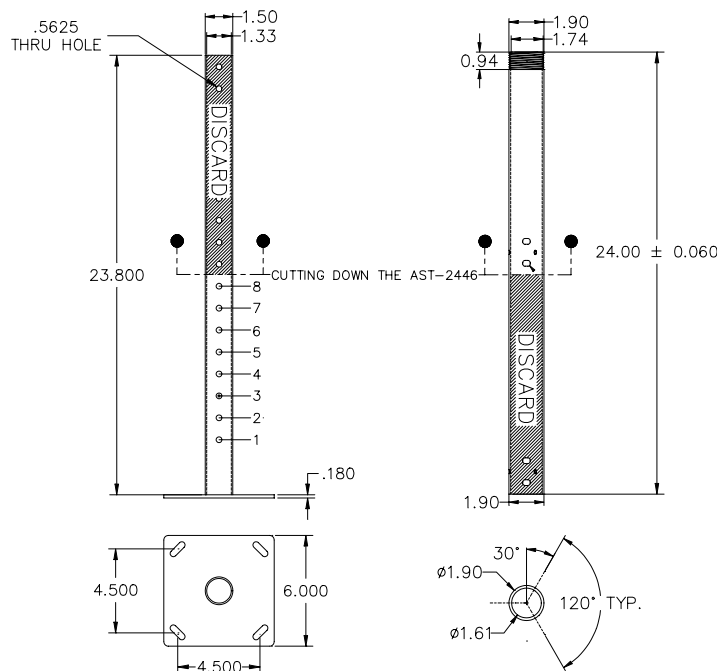

Figure 1
1. Separate the upper pipe and lower tube. Install the upper pipe to the ceiling structure using commercial standards and commercially available suitable hardware (Figure 1).